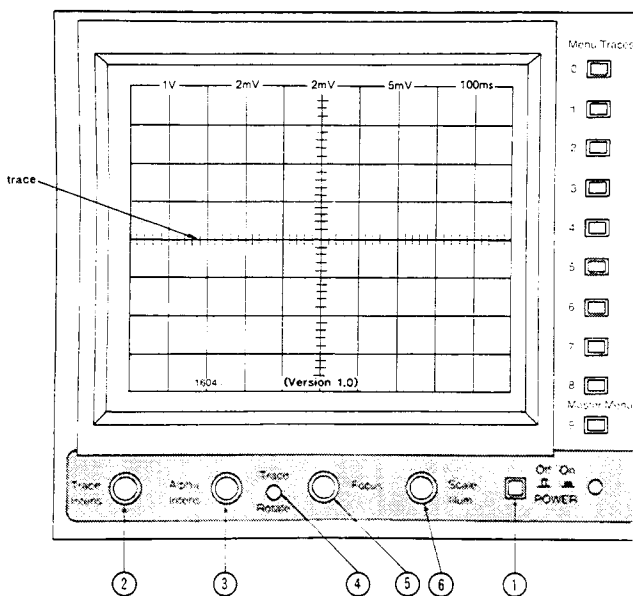

Figure 1.1.1 Power-on Display (1604)
After connecting the oscilloscope to the supply, press the **POWER** ① button situated below the lower-right corner of the display. A light will illuminate beside the button. The display will light up with something approximating that shown in Figure 1.1.1.
An example is shown in Figure 1.1.1